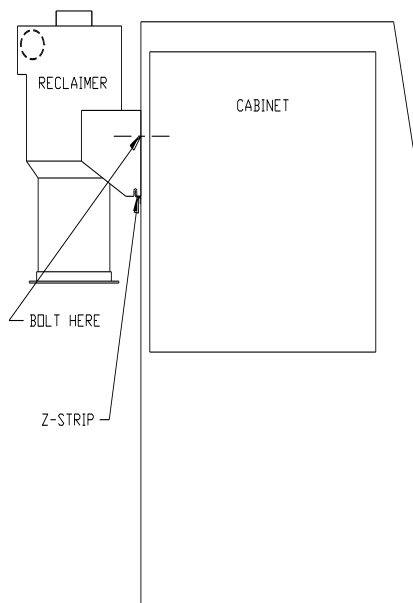

Figure 2. Reclaimer Mounting
- b. Push the reclaimer assembly up against the rear of the cabinet so that the mounting bolts protruding from the rear wall of the cabinet are inserted into the keyhole slots in the bracket. See Figure 2.